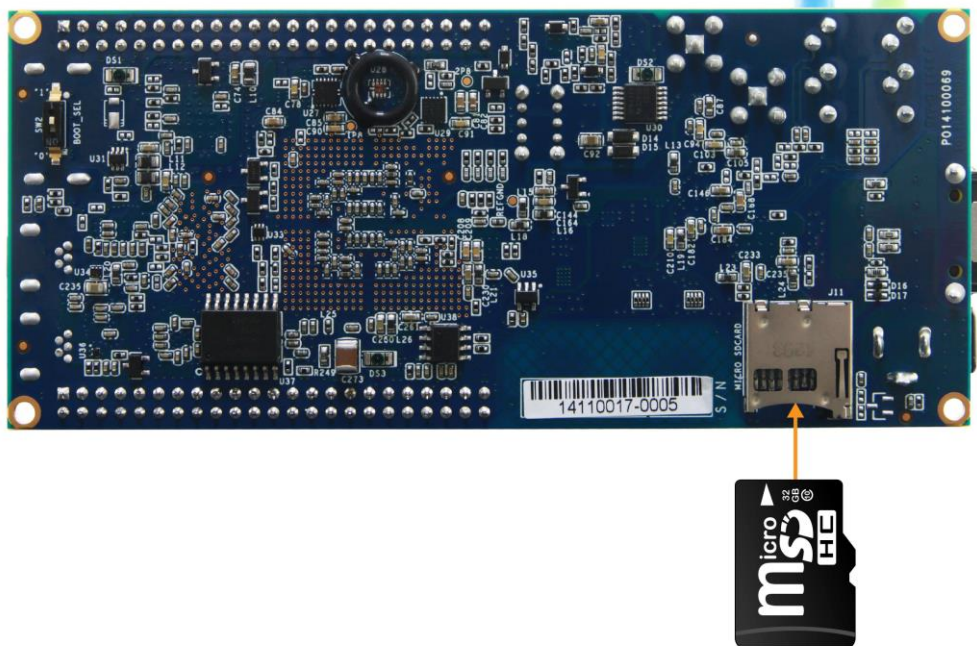

Figure 7-21 Insert the Micro SD card into DECA
- Insert the Micro SD Card into the SD Card socket of DECA, as shown in **Figure 7-21**.